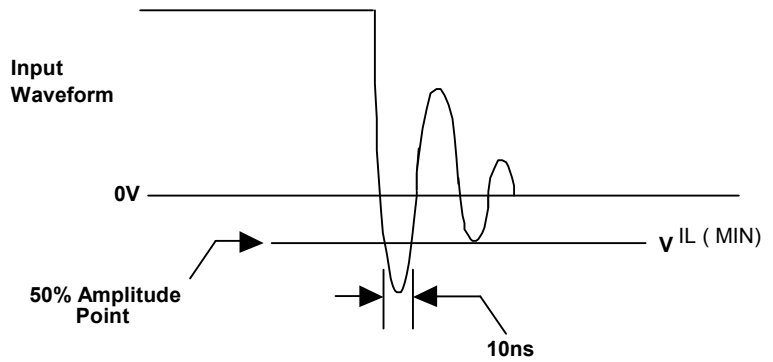

Figure 11: Input Signal Waveform
- 1.0 Volts for a duration of 10 ns measured at the 50% amplitude points for Input-only lines (see Figure 11 on page 28).